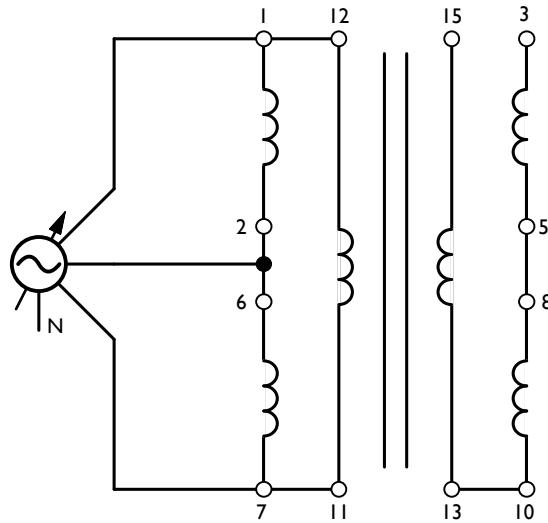

Figure 2.4: Three-Phase Transformer Connected in Delta-Delta
17. With the power off, connect the Three-phase Transformer module in the $\Delta - \Delta$ configuration shown in Figure 2.4. Note that the delta on the secondary is left open between points 15–3. **Do not close the delta** until the voltages have been verified to be zero in step 22 below. This is done to insure that the connections have been made properly. Incorrect wiring will produce dangerously high currents, and damage the transformer.